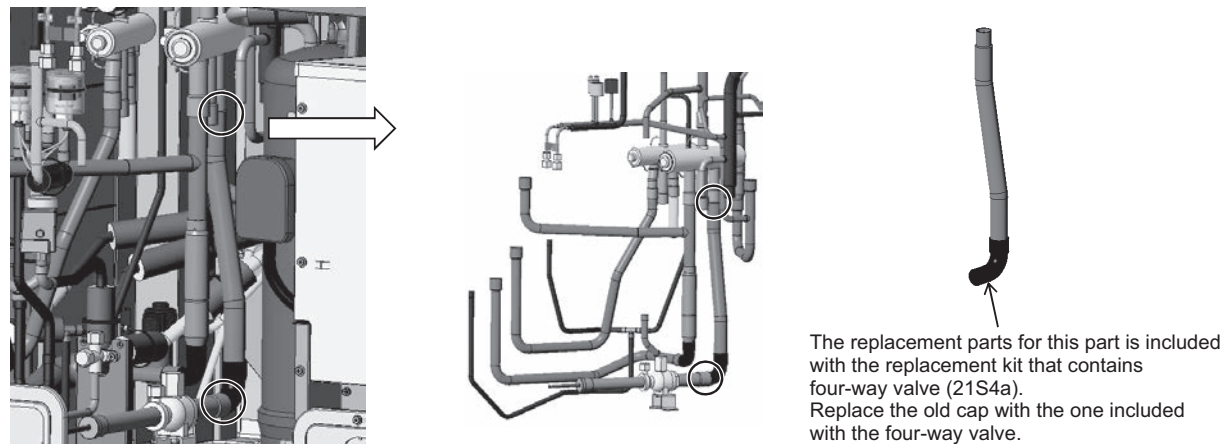

Figure 12
- (12A) Remove the pipe below four-way valve (21S4a) and on the back by removing the braze at the two areas on the bottom of the pipe shown in Figure 12. Then, remove the braze at the areas on the top of the pipe.